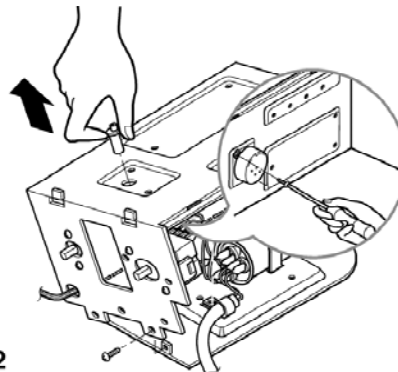

Figure 12
5. Remove the 2 screws which fasten the synchronous motor. (See Fig. 12)